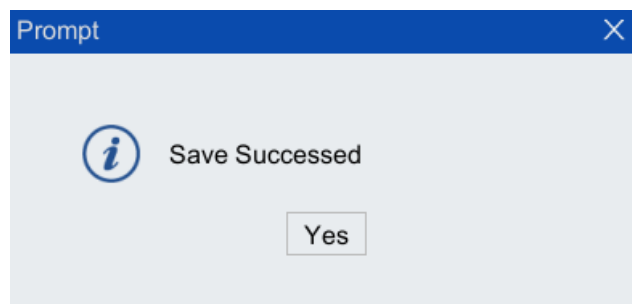

Figure 8-14 Save prompt
Step5. After the tool coordinate system calibration is completed, click <Save>, and click <Yes> in the pop-up prompt dialog box to save the configuration. As shown in Figure 8-14.